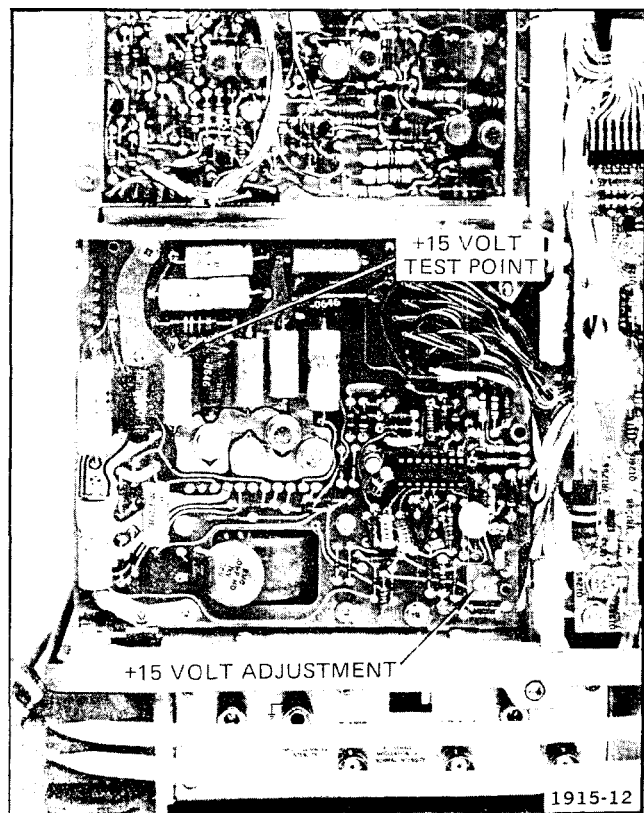

Fig. 5-1. +15 volt adjustment locations.
a. Connect the Precision DC Voltmeter between the +15-volt power supply test point (positive lead of C1974 on Power Supply Secondary circuit board; see Fig. 5-1) and ground.
d. ADJUST— +15 Volts adjustment R1940 (see Fig. 5-1) for a meter reading of +15 volts,  $\pm 0.037$  volt.